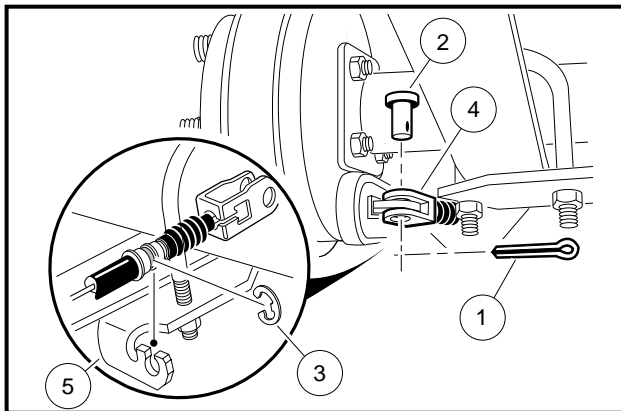

Figure 6-33 Disconnect Cables at Rear Brakes
- 4.1. Remove cotter pins (1) clevis pins (2) and E-clips (3) (**Figure 6-33, Page 6-20**).
2. At the rear wheel brakes, connect the cables to the brake actuator arms using clevis pins (2) and new cotter pins (1) (**Figure 6-33, Page 6-20**).
3. Place cables in cable support bracket (5) and secure with E-clips.